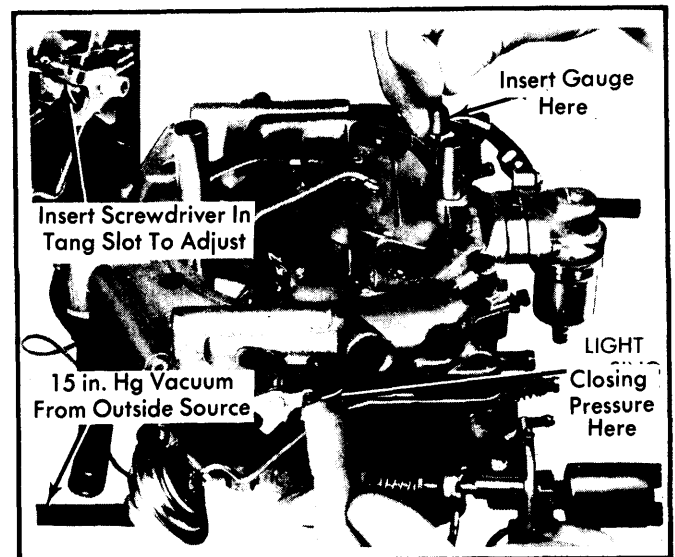

Fig. 8 Adjusting Choke Vacuum Kick
- 1) Open throttle and close choke. Now close throttle to trap fast idle cam at closed choke position. See Fig. 8.